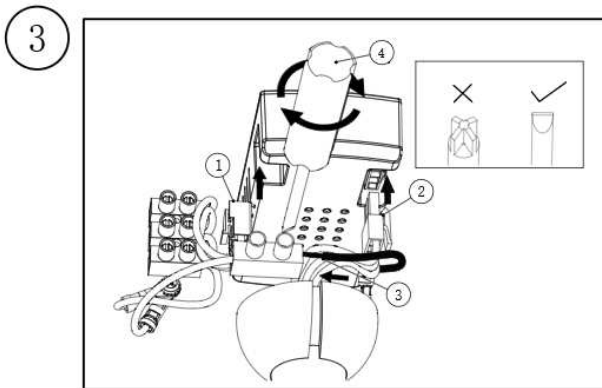

Fig. 6.3
3. Connect the wiring (Fig.6.3 & **Refer to the wiring diagram in Fig.7 for more information**)